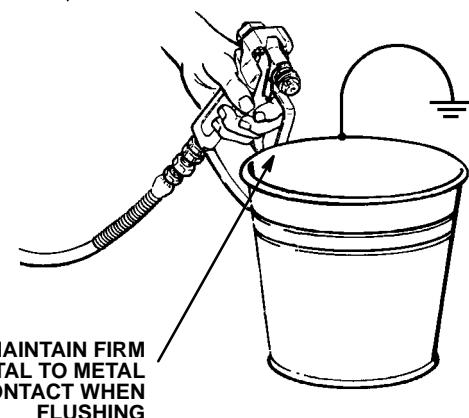

Fig 13-1
6. Hold a metal part of the gun firmly against a metal waste container. See Fig 13-1. Hold the trigger open, turn the sprayer ON, and slowly increase the pressure setting until the sprayer starts. Keep the gun triggered until all air is forced out of the system and the solvent flows freely from the gun. Release the trigger and engage the gun safety latch. This procedure helps reduce the risk of static sparking and splashing.